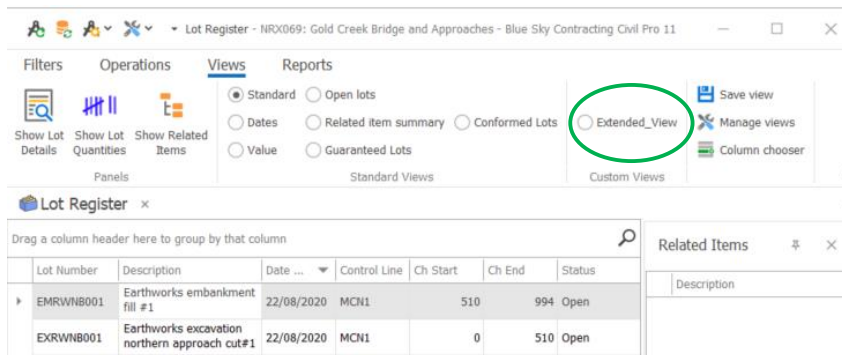

Figure 122 Newly saved custom view now displayed as a view option
1. In the ribbon menu under Views in the Custom View section to the right of the screen your newly created view will be displayed as an option as in Figure 122 – select it and your saved view will appear in the register